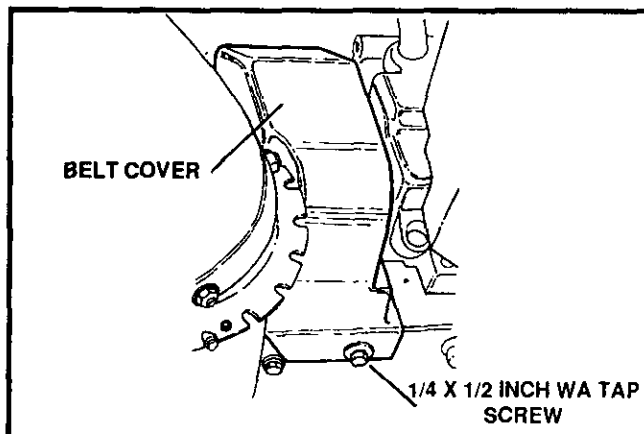

FIG. 7
- Remove the belt cover (See FIG. 7 in this section).
- Remove the belt cover (See FIG. 7).